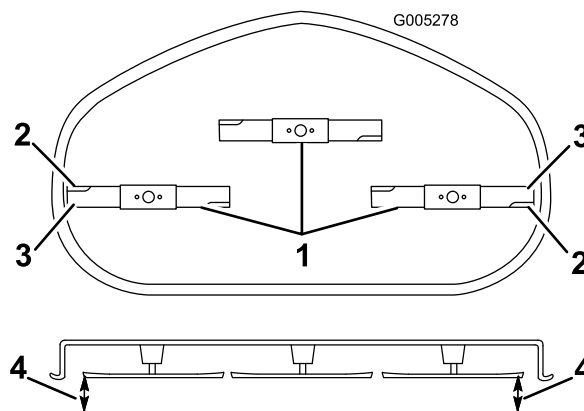

Figure 38
5. Carefully rotate the blade(s) side to side (Figure 38).
6. Measure between the outside cutting edges and the flat surface (Figure 38). If both measurements are not within 3/16 inch (5 mm), an adjustment is required; continue with this procedure.